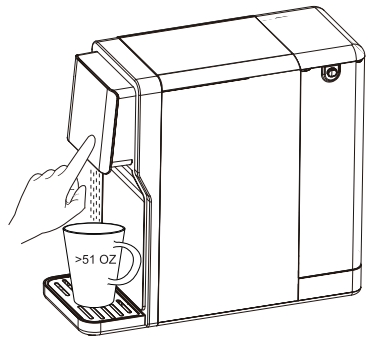

Figure 1.6
Step 7: After the filtration countdown is over, the machine enters the manual flushing mode and the "Flush" indicator light will flash. After the "Pump" indicator light goes out, put a container (>51 oz) below the spout and press the "Start / Off" button to dispense water until the "Flush" indicator light goes out. [Figure 1.6]